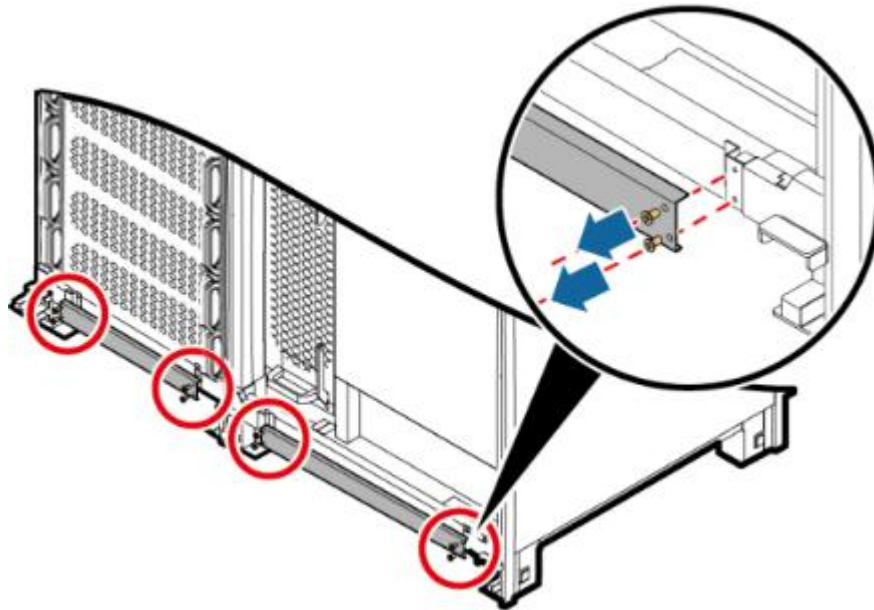

Fig. 2-56 Removal of support baffle (500kVA)
- Step 3: Open the front door of the cabinet, remove the support baffle in front of the cabinet, as shown in Fig. 2-56, and remove the rear cover.